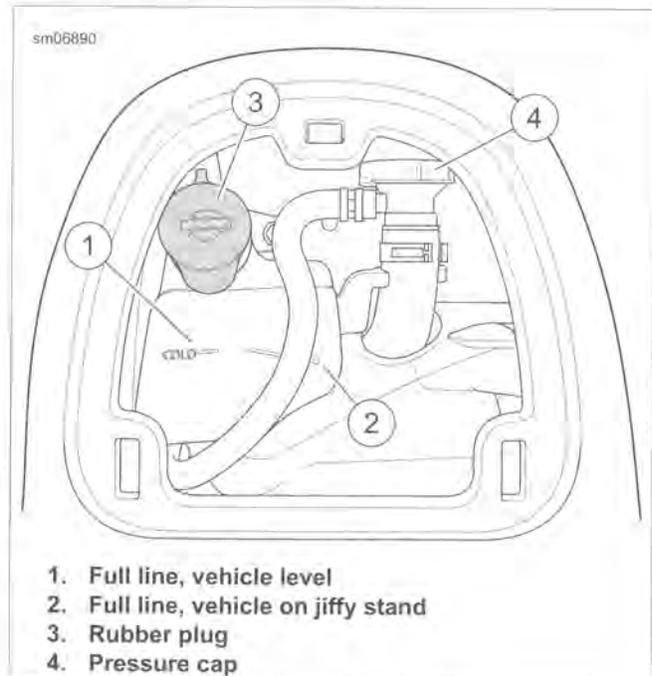

Figure 1-6. Coolant Level
See Figure 1-6. The coolant bottle has two lines. Use the angled line (2) when the motorcycle is leaning on the jiffy stand.
2. See Figure 1-6. Check that coolant level in coolant bottle is at or slightly above the "COLD" line (1).
3. See Figure 1-6. Remove rubber plug (3).